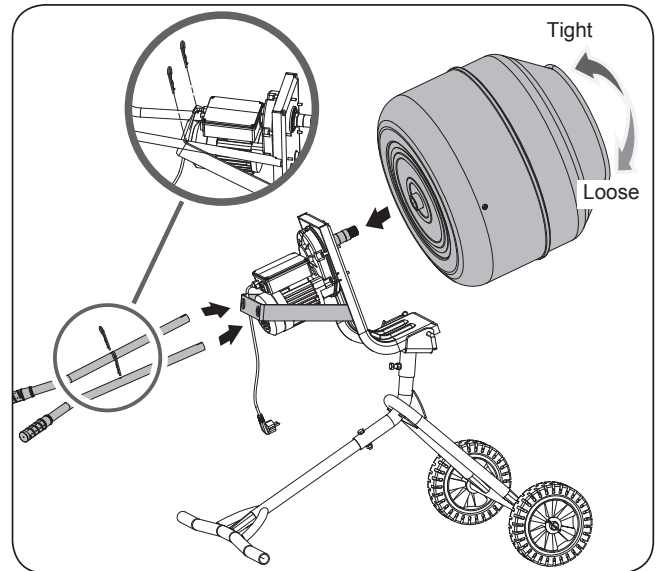

Figure 3
1. Mount the cement mixer drum onto the gear box shaft. Turn the drum clockwise on the gear box shaft thread until the shaft is completely located in the drum. (See **Figure 3**)